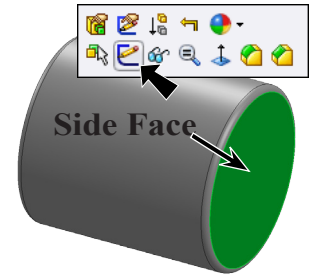

Fig. 7
click **OK** , Fig. 7.
Step 1. Click the **side face** and click **Sketch**  on the Content menu, Fig. 7.
Step 3. Click **Circle**  (S) on the Sketch toolbar.